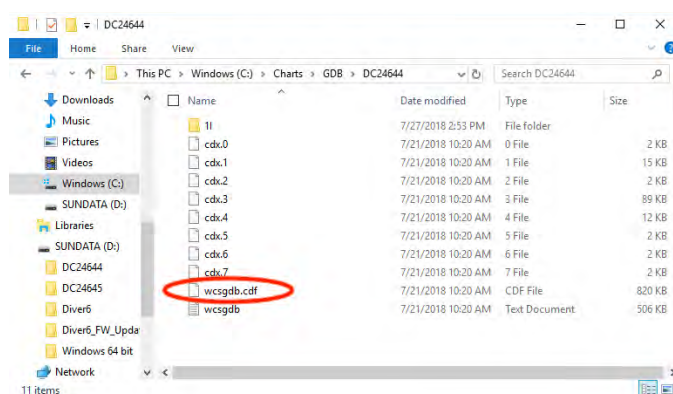

Figure 84: Chart Index File
6. Figure 84 is an example of the “.CDF” file. This file is the index file needed for S-63 charts to load in the Tile Server.
7. Click OK (Figure 84) when you are finished.